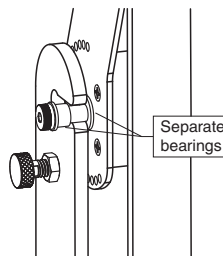

Figure 4.6 Yoke frame attachment
3. Fasten the hinge shoulder screws using a 3/16" hex socket to 100in-lb. Refer to Figure 4.6.